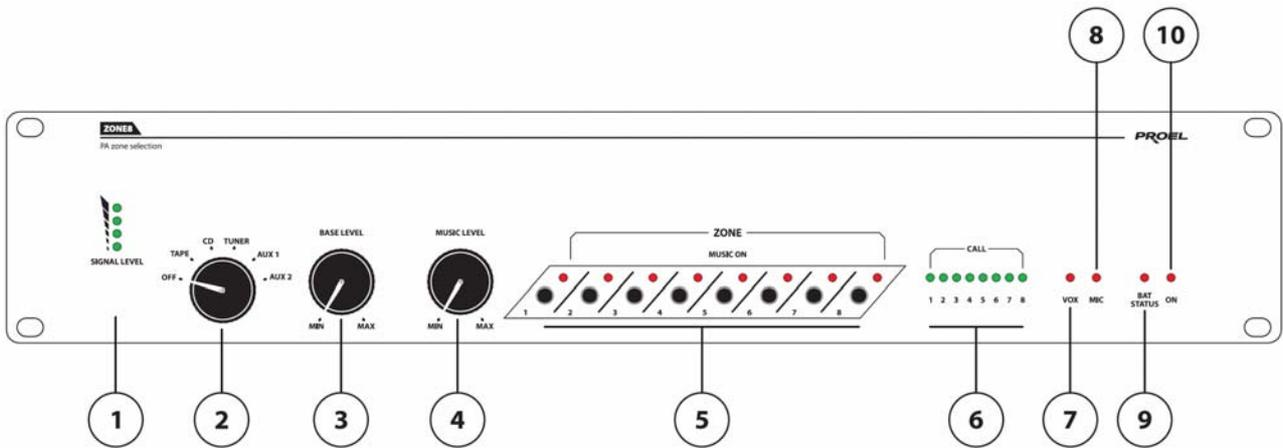

fig.1
**NB-** Led indicator on front panel **ref.9-fig.1** lights when DC power supply level is under 19 VDC.
The available music sources must be connected respectively to RCA inputs, the further RCA input referred "REC" is set for eventual total log event external recording purposes. Such signal inputs are to be selected respectively throughout the input commutator **ref.2-fig1**, level set by volume control **ref.3-fig1** and sent to the different eight zones throughout the relevant keys **ref.5-fig1**.